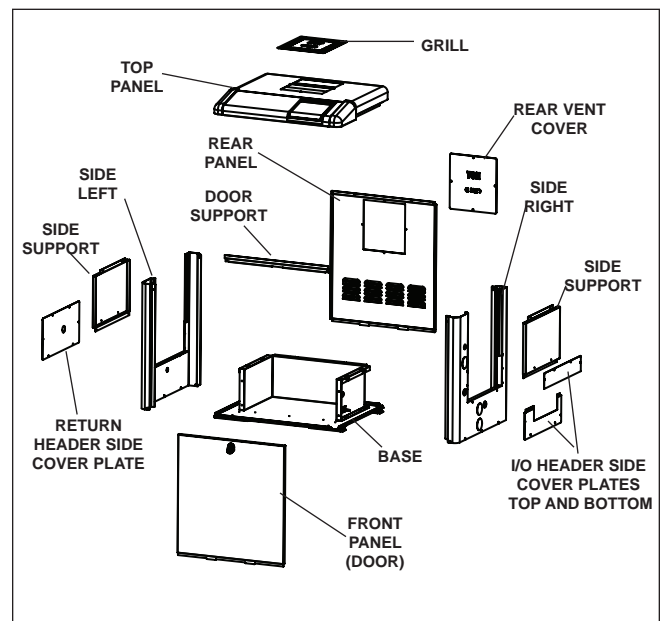

Figure 13. LXi Panel Identification
3. Remove the I/O header side cover plates, top and bottom. See Figure 13.
4. Remove the return header side cover plate. See Figure 13.